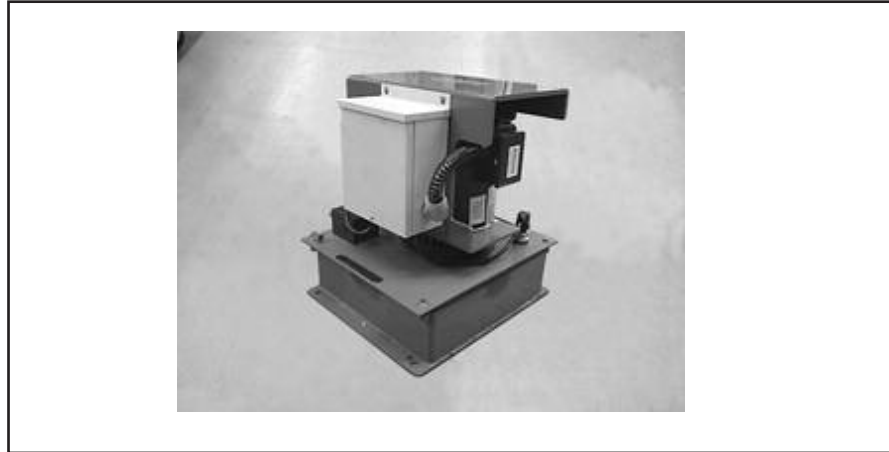

Fig. 12.1
- 12.1 Placement Considerations: The Power Unit should be placed on a flat, level surface. If placing outside, it is recommended the Outdoor Power Unit with Weather Guard be purchased (see Fig 12.1), but should not be subject to driving rain. If placing indoors and at a level below the pool deck, such as a basement, a floor drain is mandatory to accommodate the unlikely event of a hole developing in the hydraulic hose creating a siphon. Whether placed indoors or out, this is an air-cooled unit and must have ample ventilation. Therefore, a minimum of 12" (30cm) air space must be provided on all sides of the Power Unit motor. In addition, while frequent access is not required, it is imperative the Power Unit is accessible.